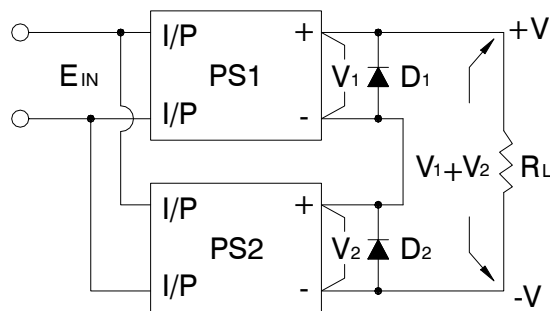

Figure 7.10: Series connection by adding external reverse blocking diodes
(1) Positive and negative terminals are connected as figure 7.10:
- (2) Increase the output voltage (current does not change). If there is no reverse blocking diode in the power supply, we should add an external blocking diode to prevent the damage of power supply while starting up. The voltage rating of the external diode should be larger than $V_1 + V_2$, and the rating of peak current should be greater than PSU rated output current. (shown in figure 7.10).